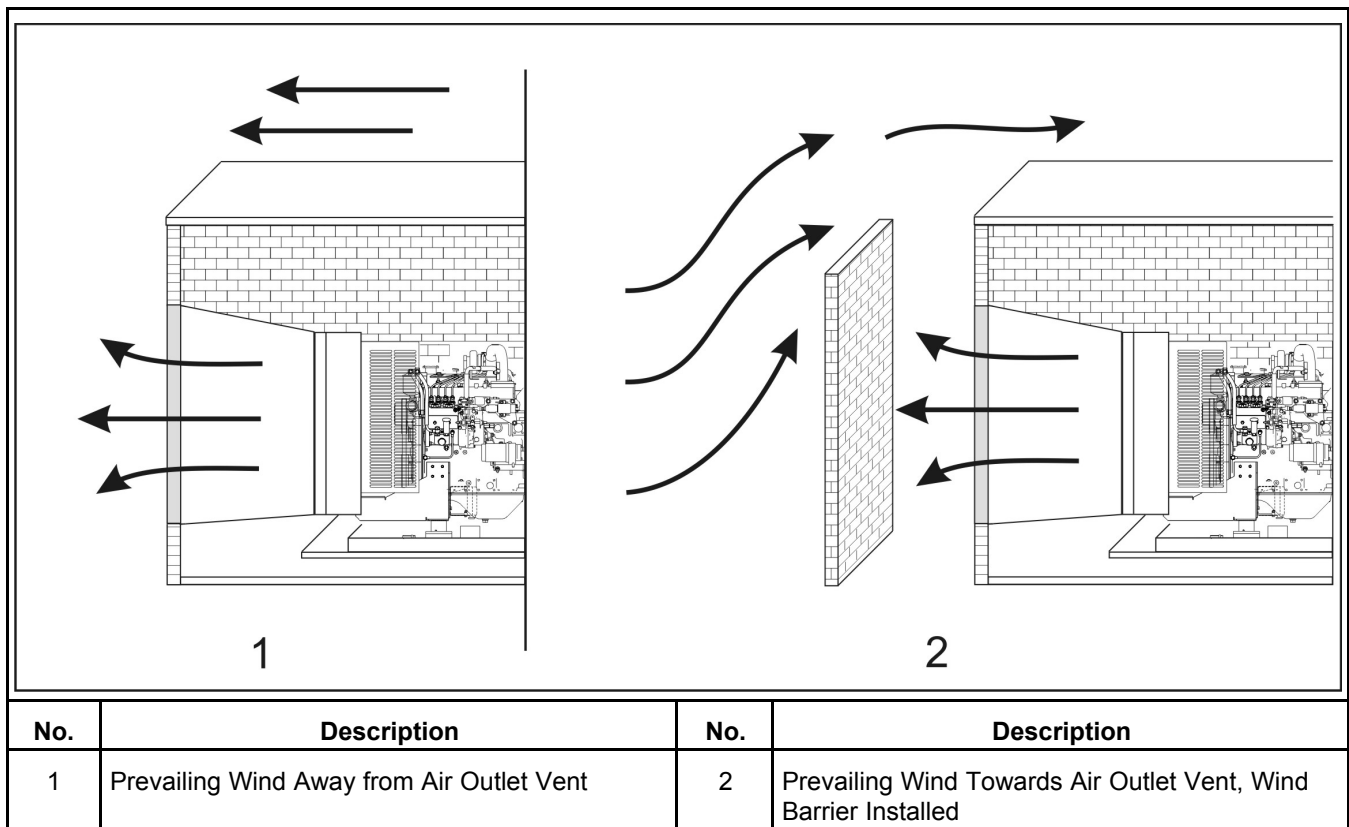

FIGURE 17. WIND BARRIER
3. Wind will restrict free airflow if it blows directly into the air outlet vent. Locate the outlet vent so the effects of wind are eliminated, or if the outlet vent cannot be located as mentioned, install a wind barrier. See Figure 17.